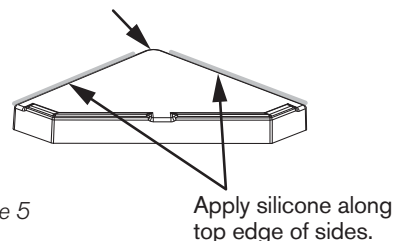

Figure 5
5. Apply silicone sealant along the sides from the top but leave the corner open to allow drainage (*Figure 5*).